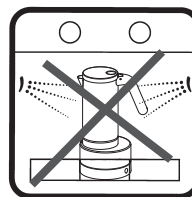

Fig. 15
- Do not wash the espresso maker in the dishwasher. (fig. 15)